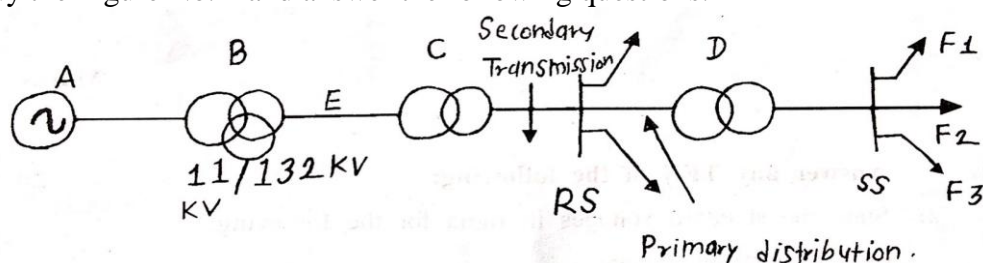

Fig. No. 1
- 2 a) Study the Figure No. 1 and answer the following questions: